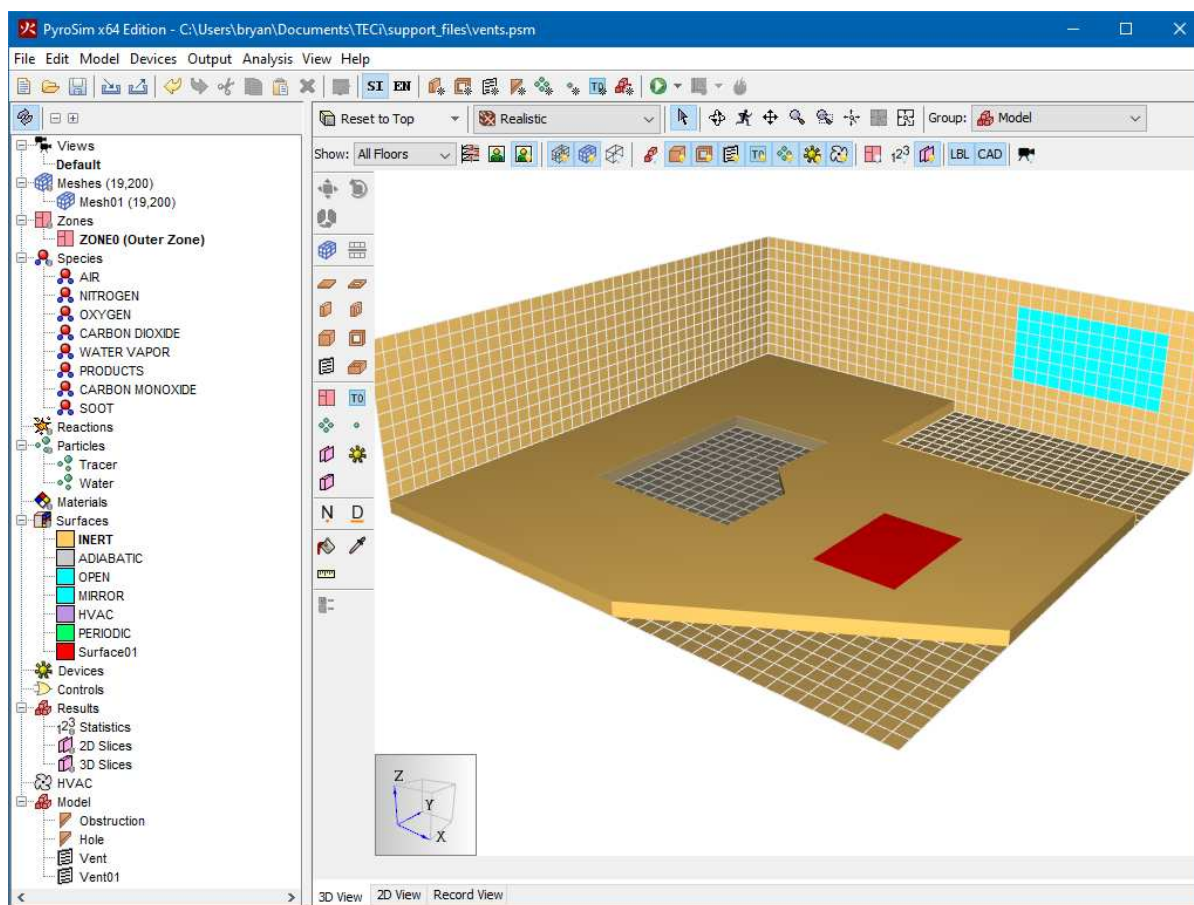

Figure 50. Vents on a mesh boundary and obstruction
**Vents** have general usage in FDS to describe a 2D rectangular patch on the surface of a **solid** obstruction or on a mesh boundary as shown in Figure 50. A **vent** may have a different surface applied to it than the rest of the obstruction to which it is attached.